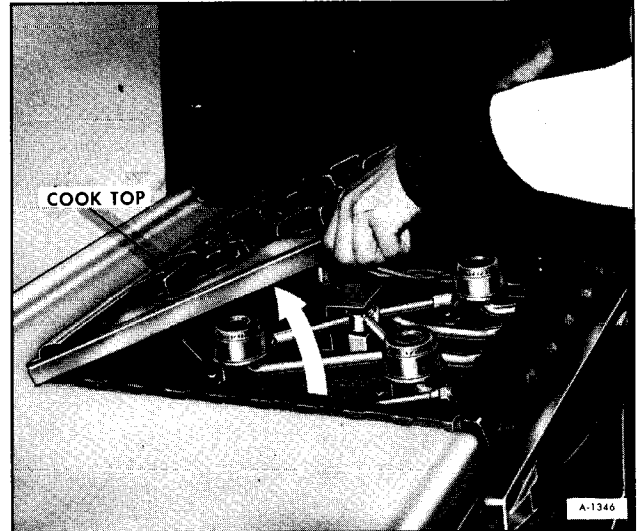

Figure 6-Cook Top Removal
2. Remove cook top and grates (See figure 6).